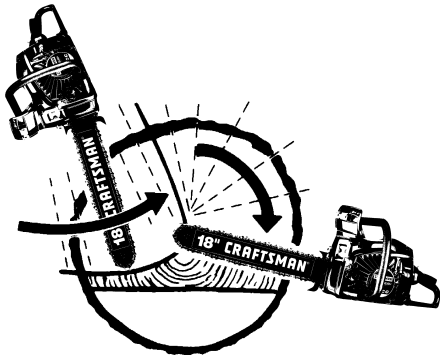

Fig. 15
2. When diameter of wood being cut is greater than the bar length, make 2 cuts as shown (Fig. 15).